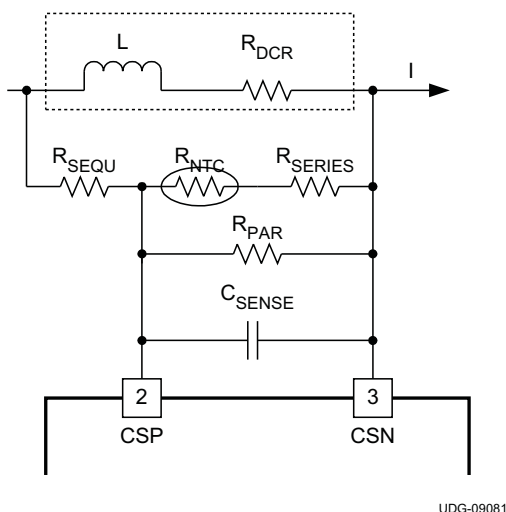

Figure 10. Typical DCR Sensing Circuit
Step Five: Design the thermal compensation network. In most designs, NTC thermistors are used to compensate thermal variations in the resistance of the inductor winding. This winding is generally copper, and so has a resistance coefficient of 3900 PPM/°C. NTC thermistors, on the other hand, have very non-linear characteristics and need two or three resistors to linearize them over the range of interest. The typical DCR circuit is shown in Figure 10.
- all of the parameters are defined in Figure 10
- R_{EQ} is the series/parallel combination of the other four discrete resistors (11)